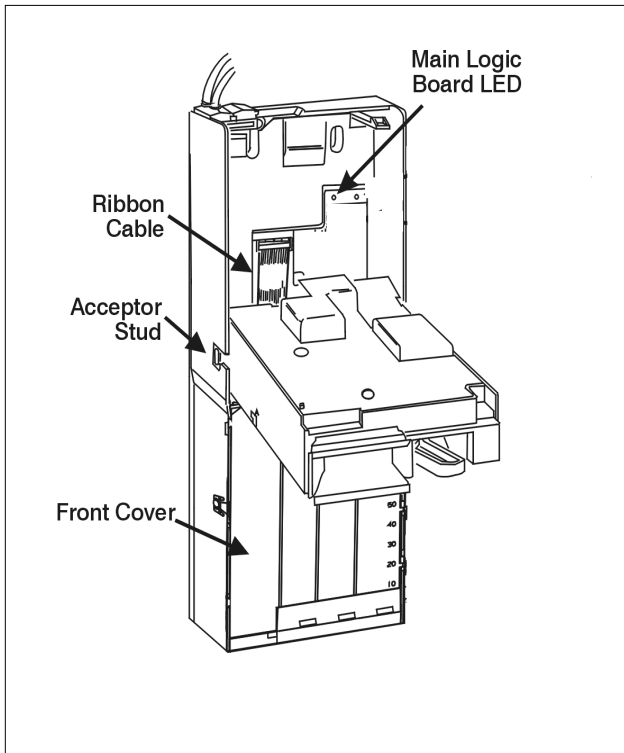

Figure 2
4. Re-install the acceptor by inserting the lower acceptor studs into the changer housing guides. Plug the ribbon cable into the changer (see figure 2).